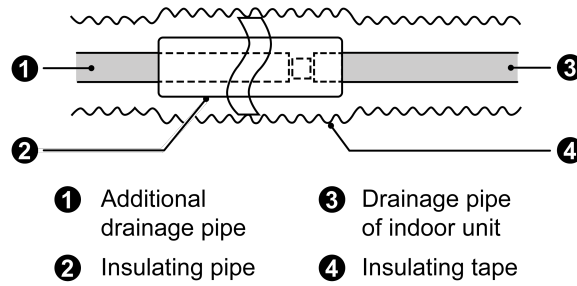

Fig.4.3.1
- (1) It is not allowed to connect the condensate drain pipe into waste pipe or other pipelines which are likely to produce corrosive or peculiar smell to prevent the smell from entering indoors or corrupt the unit.
- (2) Incorrect installation of the indoor unit may result in inadequate drainage, potentially causing bacterial growth and associated health hazards. Inadequate drainage may also lead to corrosion of the unit
- (3) Setting the unit at an angle opposite to the drain piping might cause leaks.
- (4) It is not allowed to connect the condensate drain pipe into rain pipe to prevent rain water from pouring in and cause property loss or personal injury.
- (5) Condensate drain pipe should be connected into special drain system for air conditioner.
- (6) The drainage pipe should be short and the gradient downwards should be at least 1%~2% in order to drain condensation water smoothly.
- (7) The diameter of drainage hose should be bigger or equal to the diameter of drainage pipe joint.
- (8) Install drainage pipe according to the following Fig.4.3.1 and arrange insulation to the drainage pipe. Improper installation may lead to water leakage and damp the furniture and other things in the room.
- (9) You can buy normal hard PVC pipe used as the drainage pipe. During connection, insert the end of PVC pipe into the drainage hole and then tighten it with drainage hole and wire binder. Can't connect the drainage hole and drainage hole with glue.
- (10) When the drainage pipelines are used for several units, the position of pipeline should be about 100mm (4 inch) lower than the drainage port of each unit. In this case, thicker pipes should be applied.